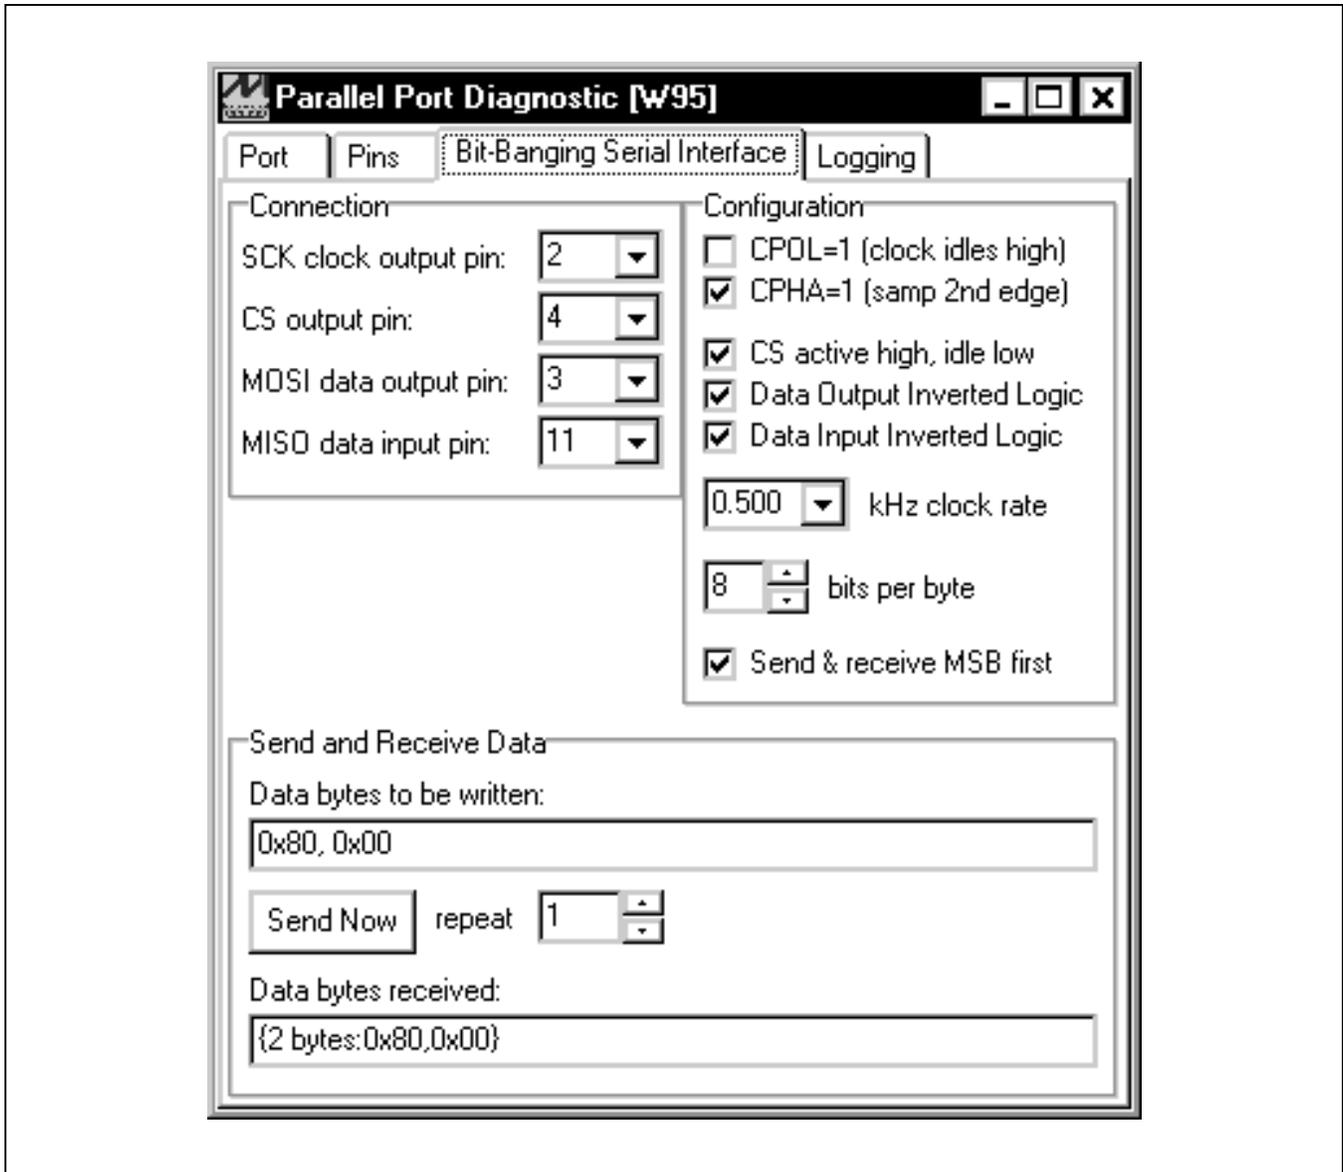

Figure 3. SPI Utility Showing the Settings to Communicate with the MAX8521 EV Kit
There are two methods for communicating with the MAX5144 DAC: through the user-interface panel or through the general-purpose SPI utility. This utility (Figure 3) configures SPI parameters such as clock polarity (CPOL), clock phase (CPHA), and chip-select (CS) polarity. The fields where pin numbers are required apply to the pins of the parallel port connector.